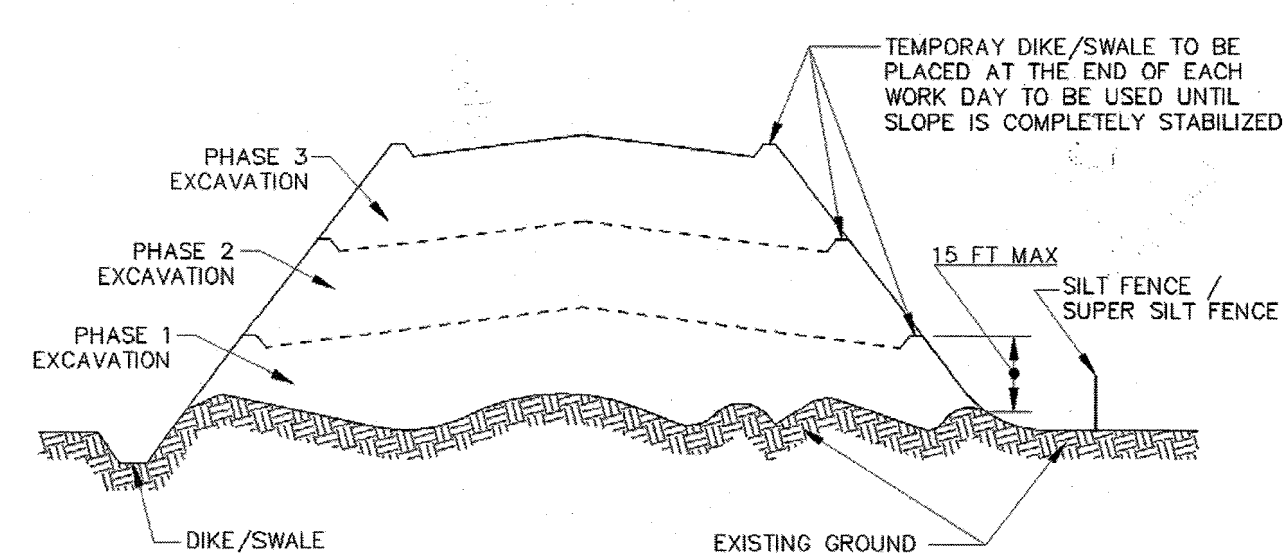

Figure B.2: Incremental Stabilization - Fill
- 4. Construction sequence example (Refer to Figure B.2):